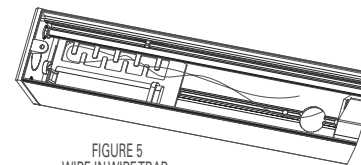

FIGURE 5
8. Excess wire length can be held in place in the wire trap (See Figure 5).
6. Excess wire length can be held in place in the wire trap (See Figure 5).
7. If the fixture is to be wall mounted, first, loosen the set screw on the back of the pivot housing. Then remove the locking clip by sliding it to the end of the pivot housing (See Figure 5). Rotate the pivot housing 90 degrees, and then replace the locking clip. Tighten the set screw.